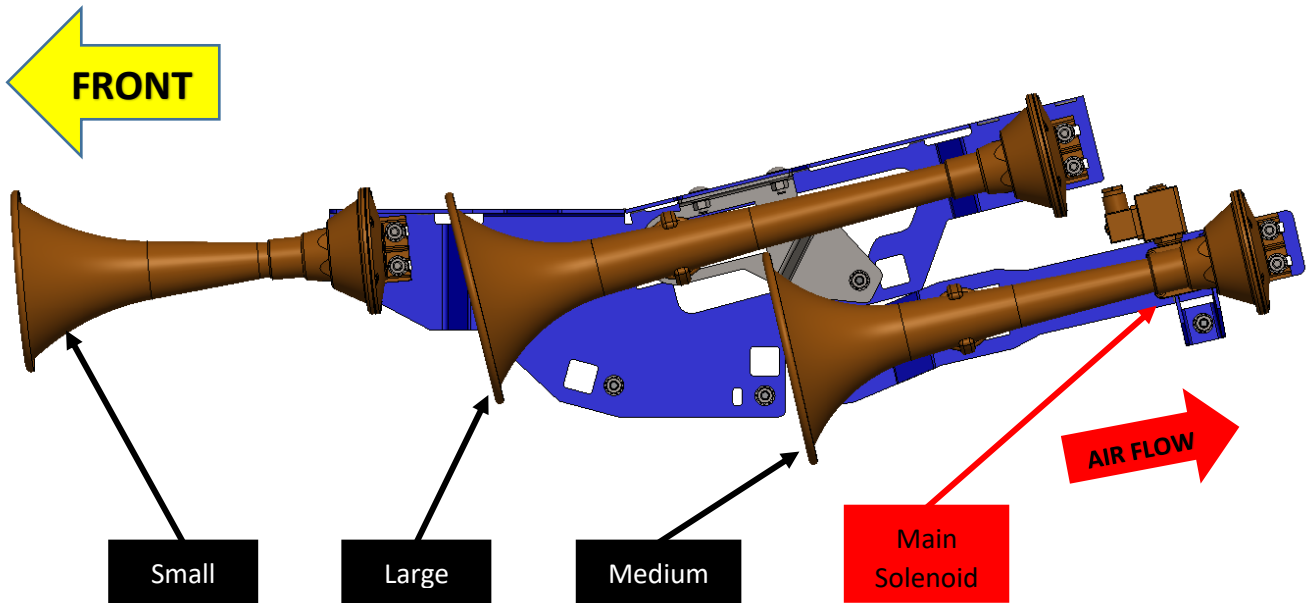

Figure 34 – Air Horn Layout (730 Horns shown with Trumpets attached); same for 734/230 Kits
10.11.1. Mount all Air Horn Drivers following layout shown in Figure 34 below. Mount Air Horn Drivers using hardware #3, #5, #7, & #13. **Standard Knurled bolt "Stack-up" DOES NOT apply.** Hand tighten only.
10.13.1. Re-attach Horn Trumpets to their respective Air Horn Drivers, as shown in Figure 34 above; if using Ore-Locks, it's necessary to first slide Trumpet throats through Ore-Locks and into Air Horn Drivers. Tighten snugly using both hands to twist along bell end.